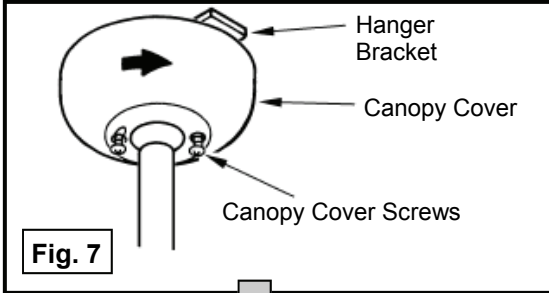

Fig. 7
STEP 6 (Fig 7)
a) Attach blades on to the blade holders as shown in figure 7.